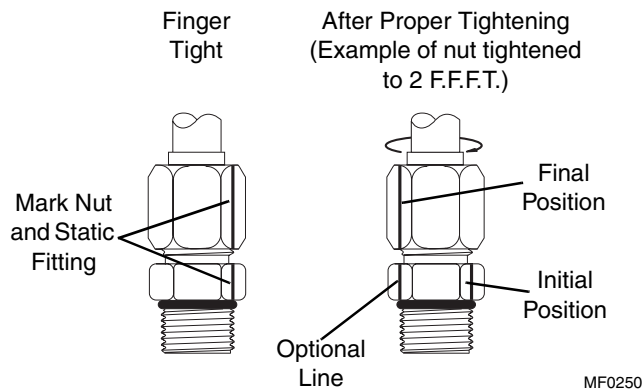

Figure 2-2 F.F.F.T. Tightening Method
Follow these steps when tightening all fitting connections (Refer to Fig. 2-2):
4. Using a permanent type ink marker, make a mark (Fig. 2-2) on one of the flats of the nut and continue it onto the hex of the static fitting or port.
6. (Optional for future tightening of the same connection.) Extend the line from the nut at its new location onto the hex of the static fitting or port (Fig. 2-2).